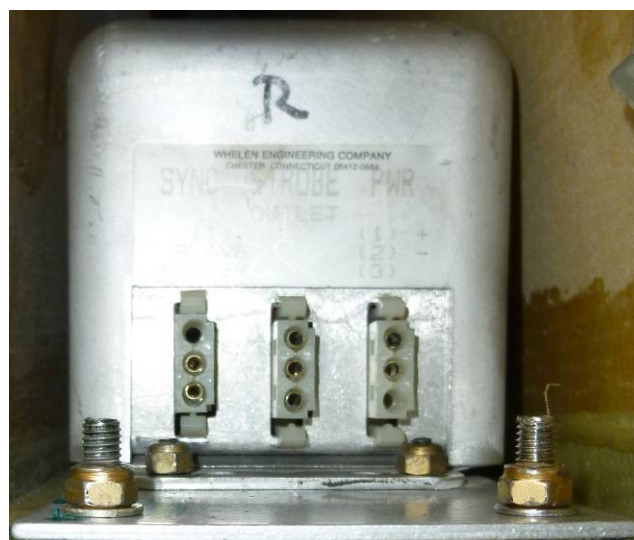

Figure 6 Power Supply with 3 connectors
- 1.8.23 If there are 3 connectors at the strobe power supply (refer to Figure 6), continue as follows: